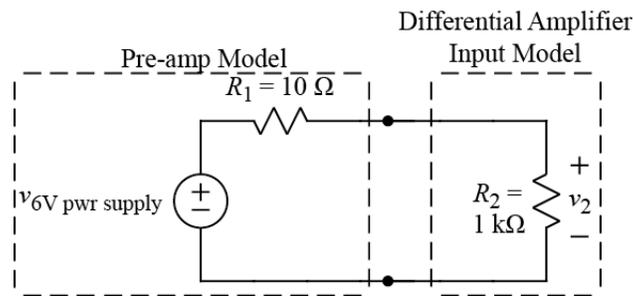

Figure 6. Circuit model of a pre-amp driving differential amplifier: schematic.
4) Repeat the above process using the circuit shown in Figs. 6 and 7, and fill out Table III in your laboratory notebook. In this circuit, the 6V power supply and the 10  $\Omega$  resistor simulate the output of a pre-amp that is between an electrode and a differential amplifier. As before,  $R_2$  simulates the input of the differential amplifier.